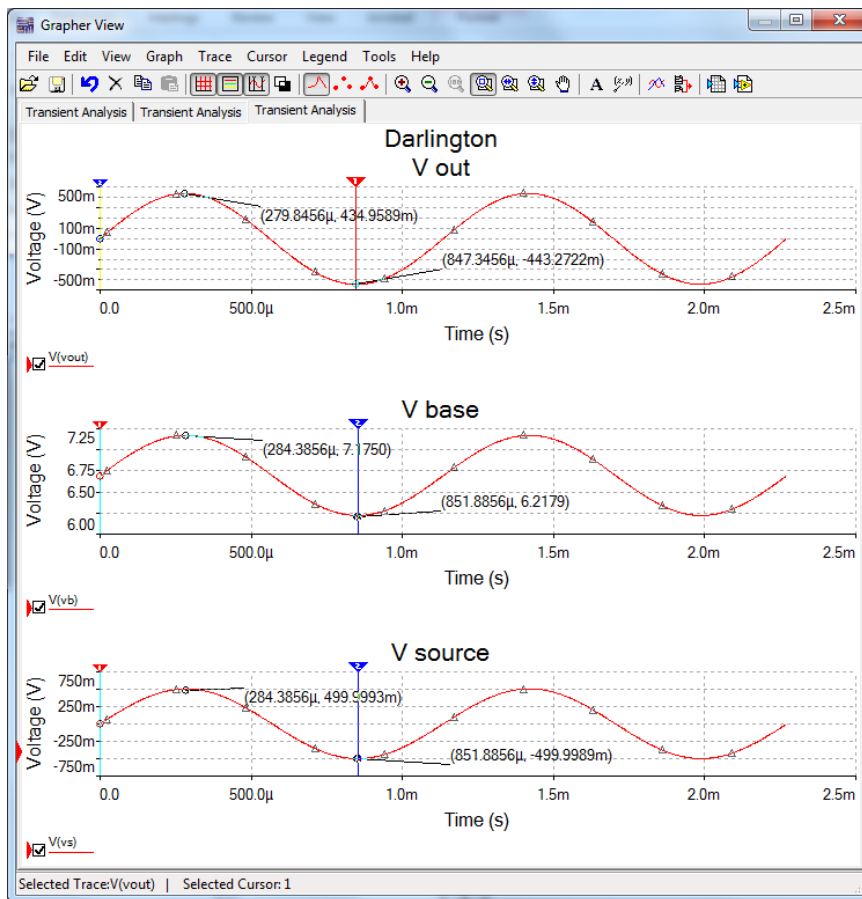

Figure 5: Graphs of Vs, VB, and Vout
- Run your simulation for each of the voltages individually and copy and paste graphs into one graph. Your graph should look similar to the one in figure 5 at the bottom of page 3.